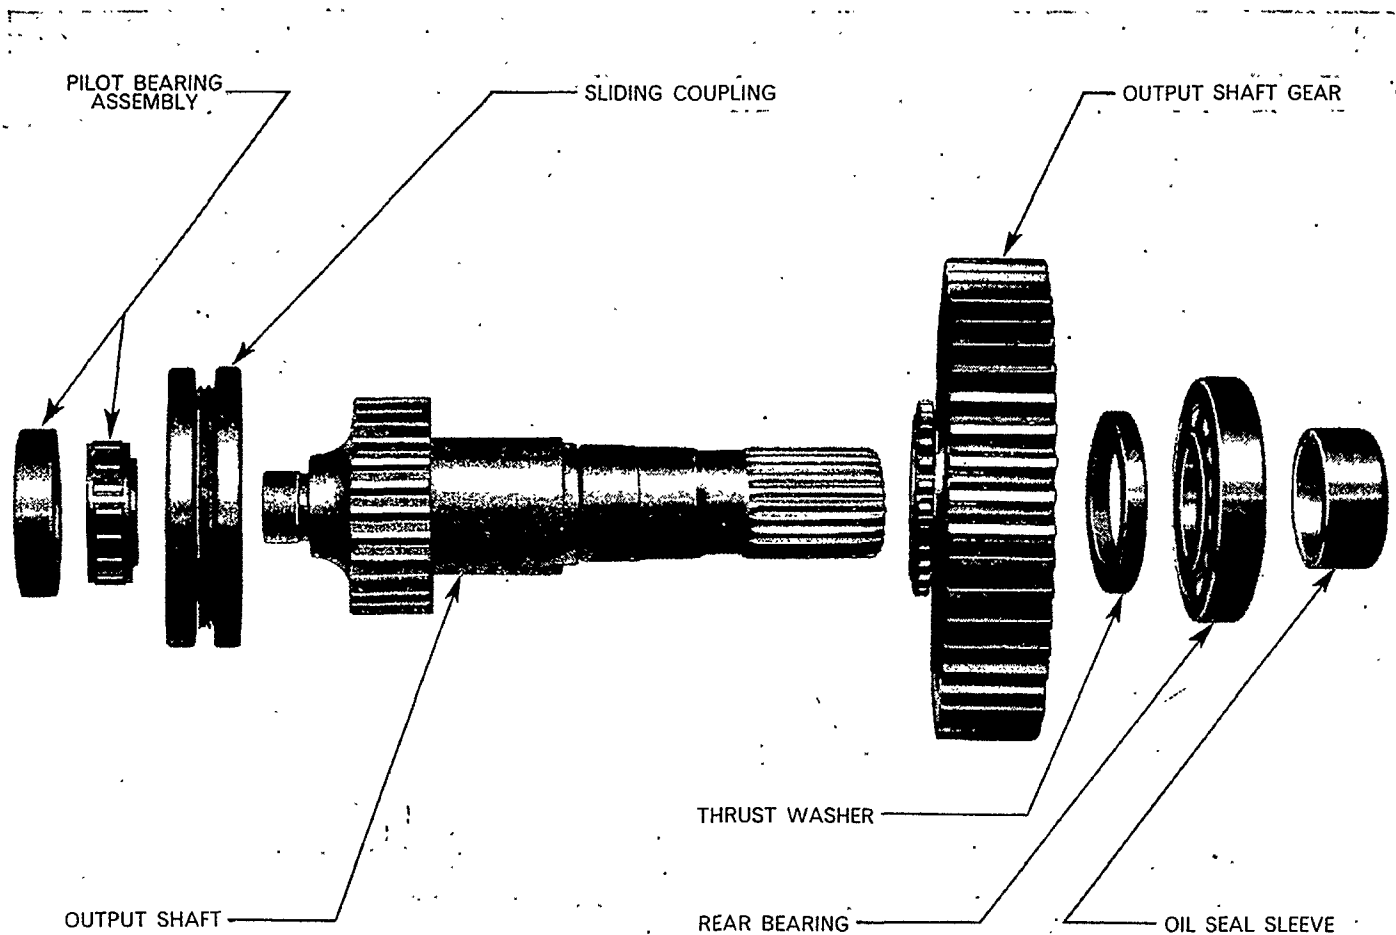

Figure 20
3. The output shaft oil seal sleeve, Figure 20, should be examined and, unless in good condition, a new part installed. (See Step 5 below.)
5. Position the output shaft gear on the shaft so that the dog-teeth on the gear adjoin the dog-teeth integral with the shaft, Figure 20. Assemble the thrust washer,